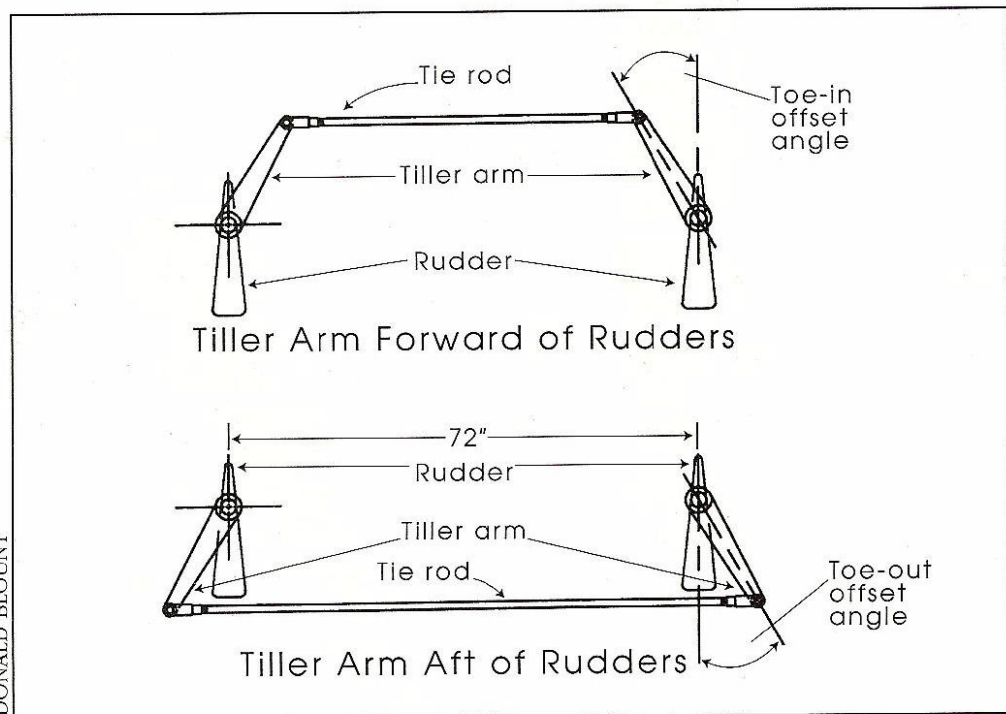

**Figure 3**—Rudder Location. The guidelines shown here are suitable for both single- and twin-rudder installations.
**Figure 3** are suitable for both single- and twin-rudder installations. I've established these relationships as design *rules of thumb*, based on my own experience with many boats. To make the dimensions that define the location of the rudder useful for various sizes of boats, I've presented them as ratios of the propeller diameter.